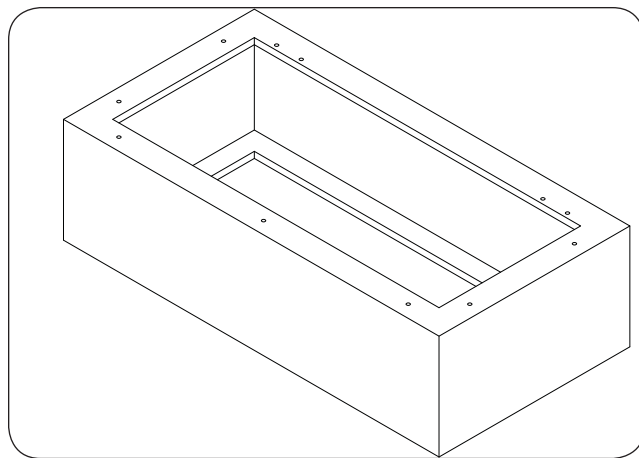

Fig. 15-1 Place hearth
1. **CAREFULLY** place the hearth piece in an appropriate location (refer back to the LOCATION section if needed). See Fig. 15-1.